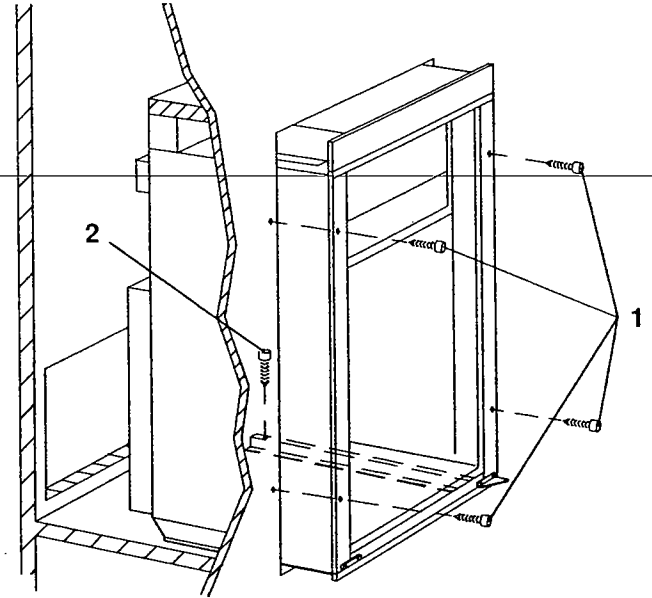

FIG. 7
STEP 1: Four screws installed through the front frame. See fig. 7.
STEP 2: One screw installed in rear base, on the left side (viewed from the rear). See fig. 7.